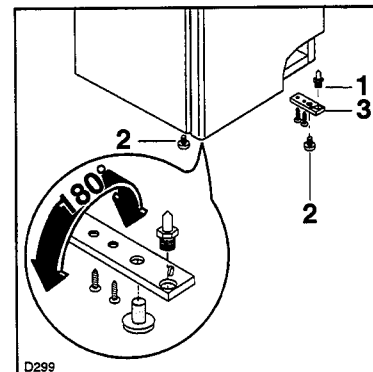

Fig. 4a
Refit the door and the lower hinge (turning it 180°), the pin (1) and the screw (2) as shown in Fig. 4a;